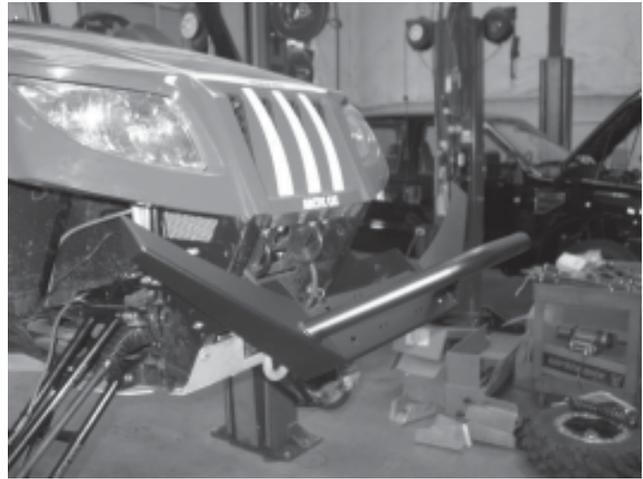

Figure 10
9. Remove top (2) receiver pins and clips to allow bumper to rotate to “down” position, allowing underhood access as shown in Figure 10.